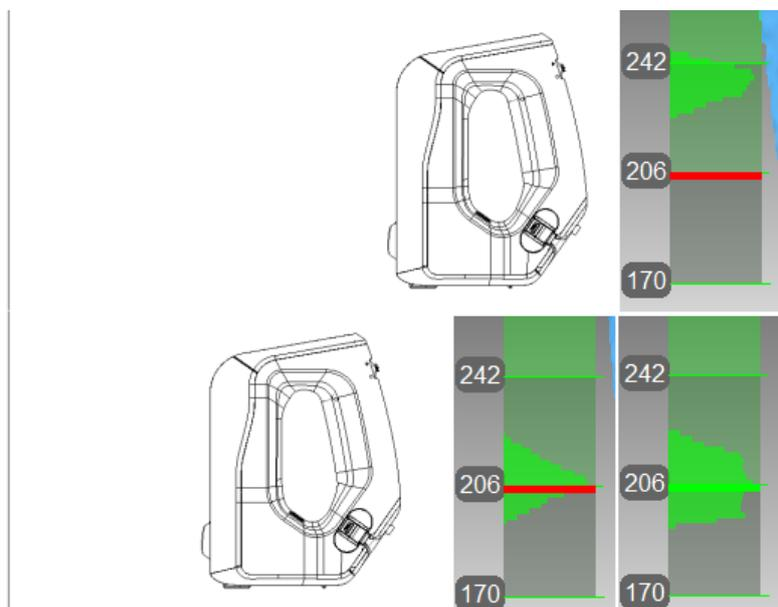

Figure 153: Artec Spider scanner's position and corresponding distance on the range meter.
7. Move the scanner smoothly toward the flat surface such that the histogram peak coincides with the red mark on the range meter (see Figure 153).